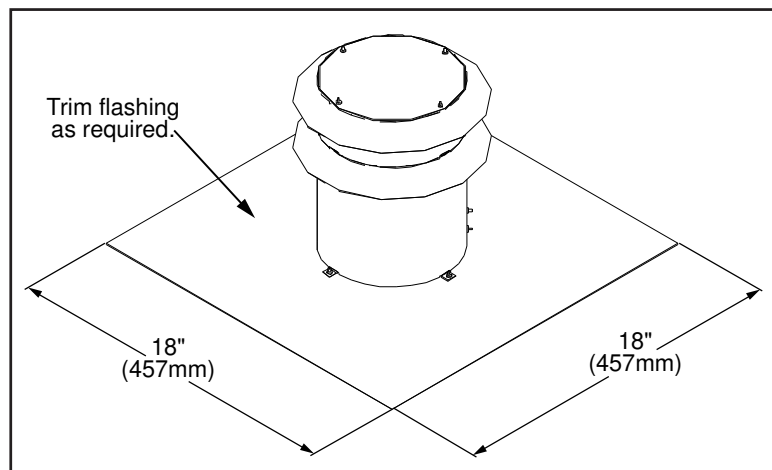

Figure 29: Vertical Vent Cap Dimensions.
4. The Vertical Vent Cap can be installed onto chimneys with flue openings up to 16" (406mm) x 16" (406mm) and the actual flashing is 18"x18" (refer to Figure 29). If the chimney is smaller the cap should be trimmed down and folded over.
5. Apply a bead of Mill-Pac Black sealant to the top section of the $\varnothing 3$ " (76mm) vent collar plate. Slide the $\varnothing 3$ " (76mm) flex vent over the flue collar and secure with three (3) sheet metal screws evenly spaced.